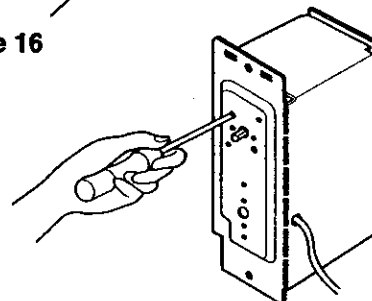

Figure 17
3. Remove 2 screws which fasten the rotary switch. (See Figure 17)